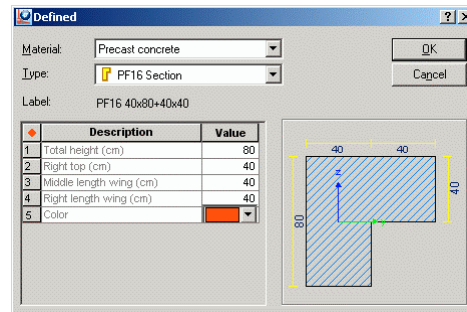

Figure 16: Measurements for the L section columns
- In the **Description** and **Value** columns, enter the values shown in the Figure 16.